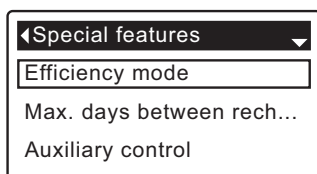

FIG. 78
5. Press the SELECT (O) button to display the Special features menu (See Figure 78).
9. Press the SELECT (O) button. The display will go back to the Special features menu (Figure 78).